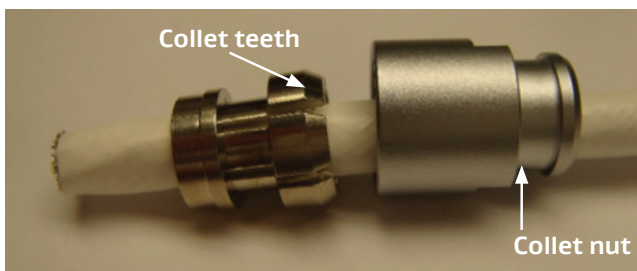

Figure 9: Attaching the collet and collet nut
2. With the smallest end near the cable, slide the collet nut over the cable; then slide the collet over the cable with the teeth facing the collet nut (Figure 9).